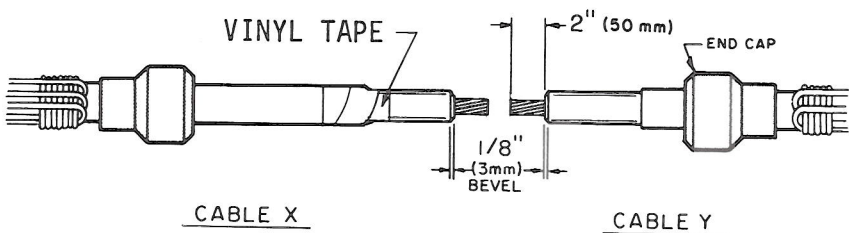

FIG. 2
**B. INSTALLATION PROCEDURES (FIGURES 2,3 and 4)**